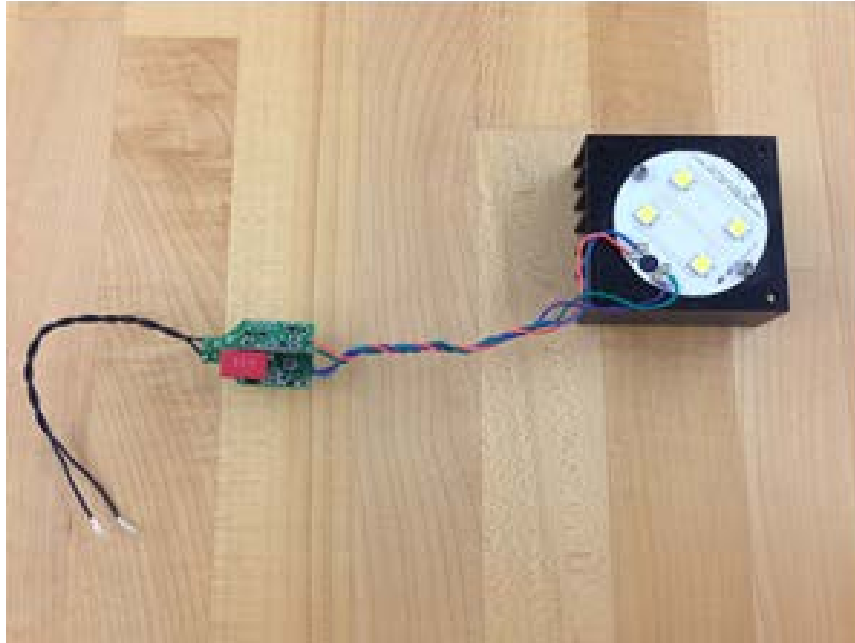

Figure 1: Test Setup
2. Connect the test setup as shown in Figure 1.